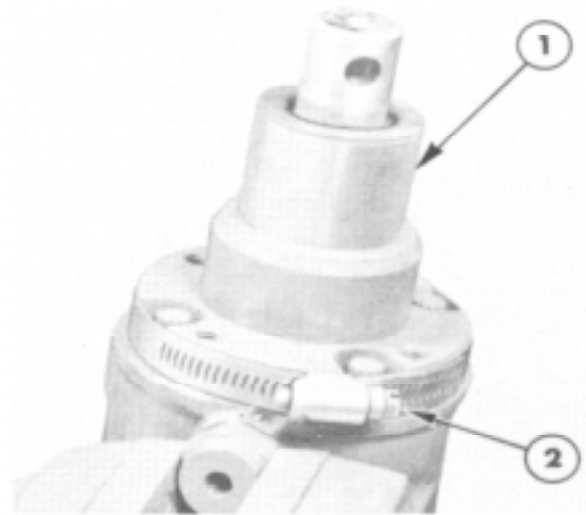

Figure 20
17. Install the upper cover screws finger tight. Use a pilot ring, or a worm drive type hose clamp tightened around the upper cover flange and the body pilot diameter, to achieve the required alignment, Figure 20. Tighten the screws to the correct torque, see "Specifications".